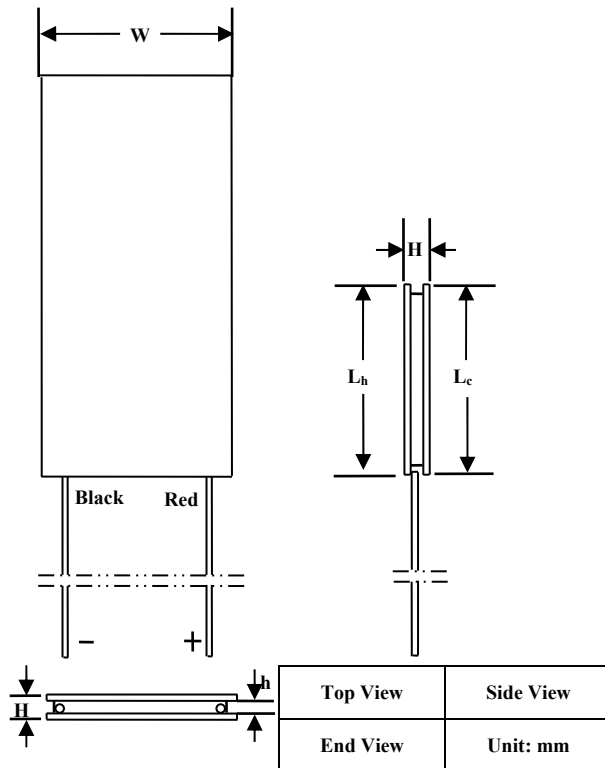
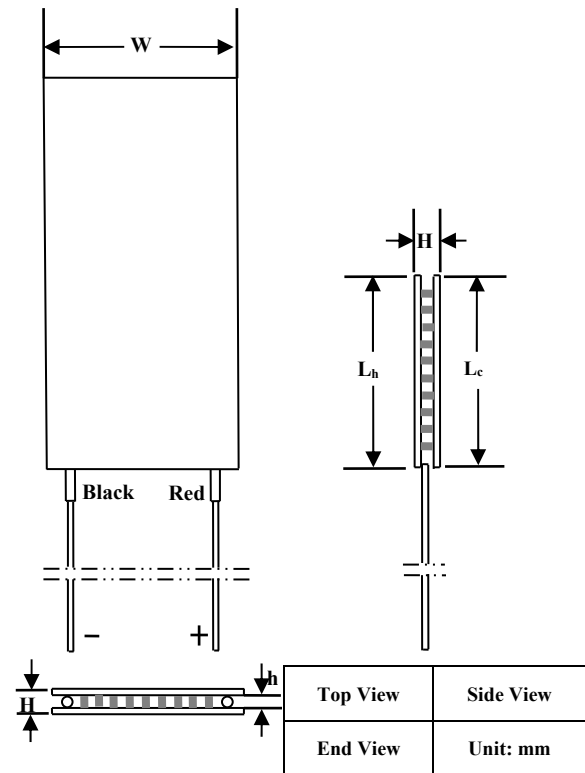

Figure 10. Mechanical Dimensions of Sealed ATE1-63
Figure 11. Mechanical Dimensions of Non-sealed ATE1-63
The ATE1-63 TECs come with 2 insulated lead wires. The positive wire is in red color, and the negative wire is of black. The mechanical dimensions are shown in Figure 10, Figure 11 and Table 1.
**Note:** As Figure 10 shows, when the red lead wire is on the right, then the top surface is the cold side of the TEC.